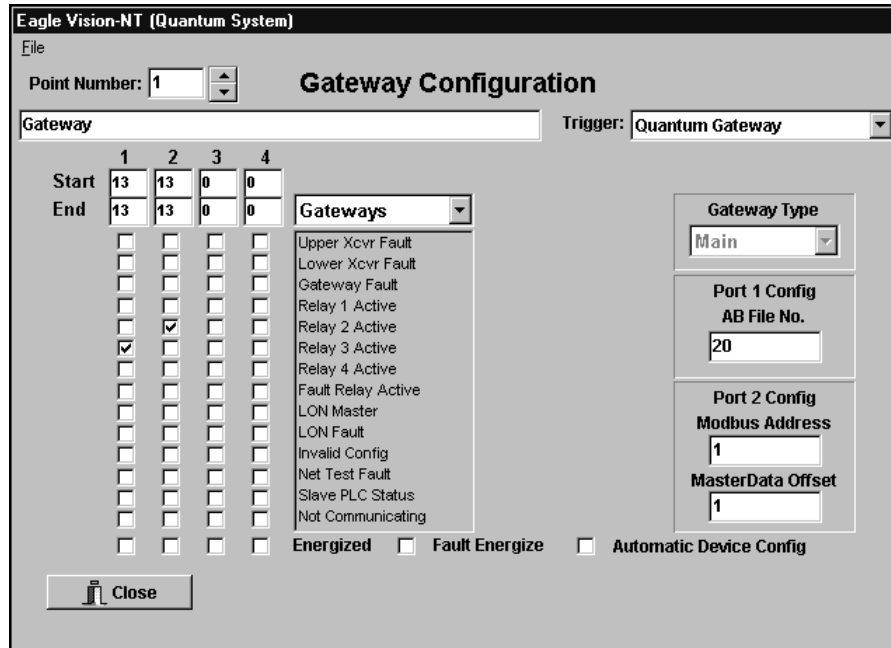

FIGURE V-3
2. Click on the Define button. Select the gateway type, then click on OK. The Gateway Configuration screen will be displayed. See Figure V-3.